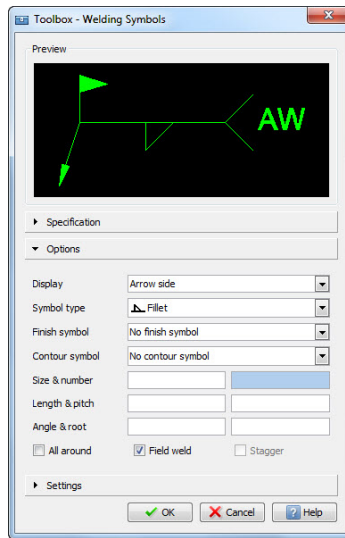

Figure 5-17b
- b. **Options** allow you to change the display of the Weld Symbol. (Figure: 5-17b)